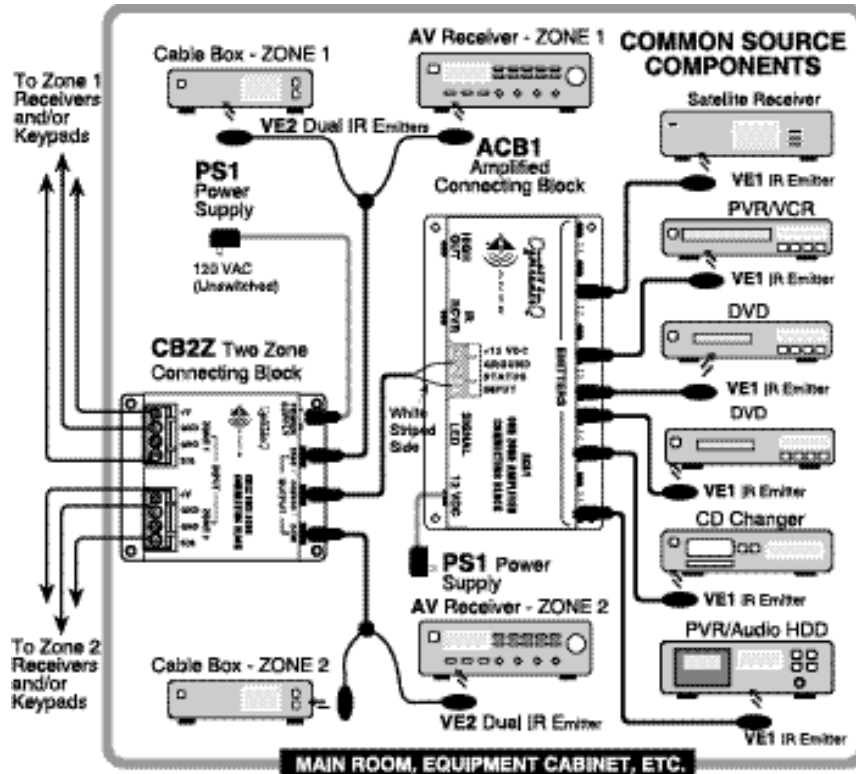

Fig. 5: Using a ACB1 for Emitter Expansion
**NOTE:** No power supply is connected to the **CB1**! It is not needed when the **CB1** is used strictly as an expansion block, as it is in this example. Also, if you need to drive more than four single emitters from the **COMMON** port, they must be driven by an **ACB1** Amplified Connecting Block. See Fig. 5, next page.
Fig. 5, below, illustrates an ACB1 driving six emitters for control of six common components. Up to 10 single or 10 dual emitters may be driven directly from the ACB1.